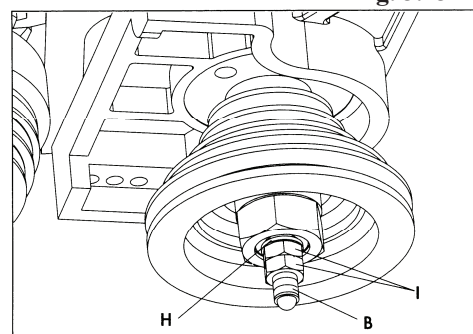

Fig. 3.14
8. Open the cabinet door and assemble the special level washer (H) to the bottom of the draw bar (B), as shown in Fig.3.14. The bevel washer (H) was removed from the draw bar in STEP 4.
9. Assemble and securely tighten the two lock nuts (I) Fig. 3.14 as shown. The two lock nuts (I) were removed from the draw bar (B) in STEP 4.